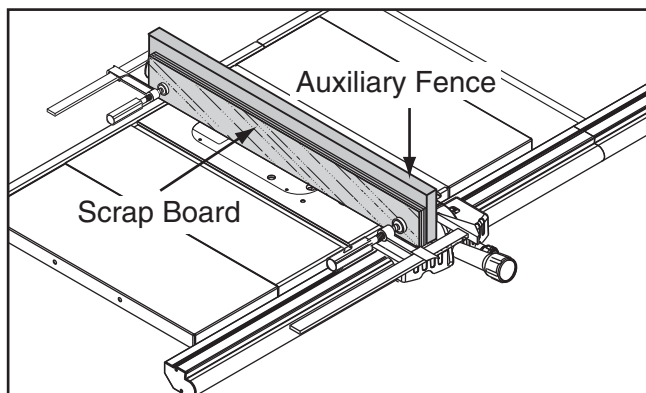

Figure 76. Scrap board and auxiliary fence clamped to fence to reduce tearout.
6. Place a scrap board adjacent to the auxiliary fence to reduce tear out, then clamp the scrap board and auxiliary fence onto the fence, as shown in **Figure 76**.